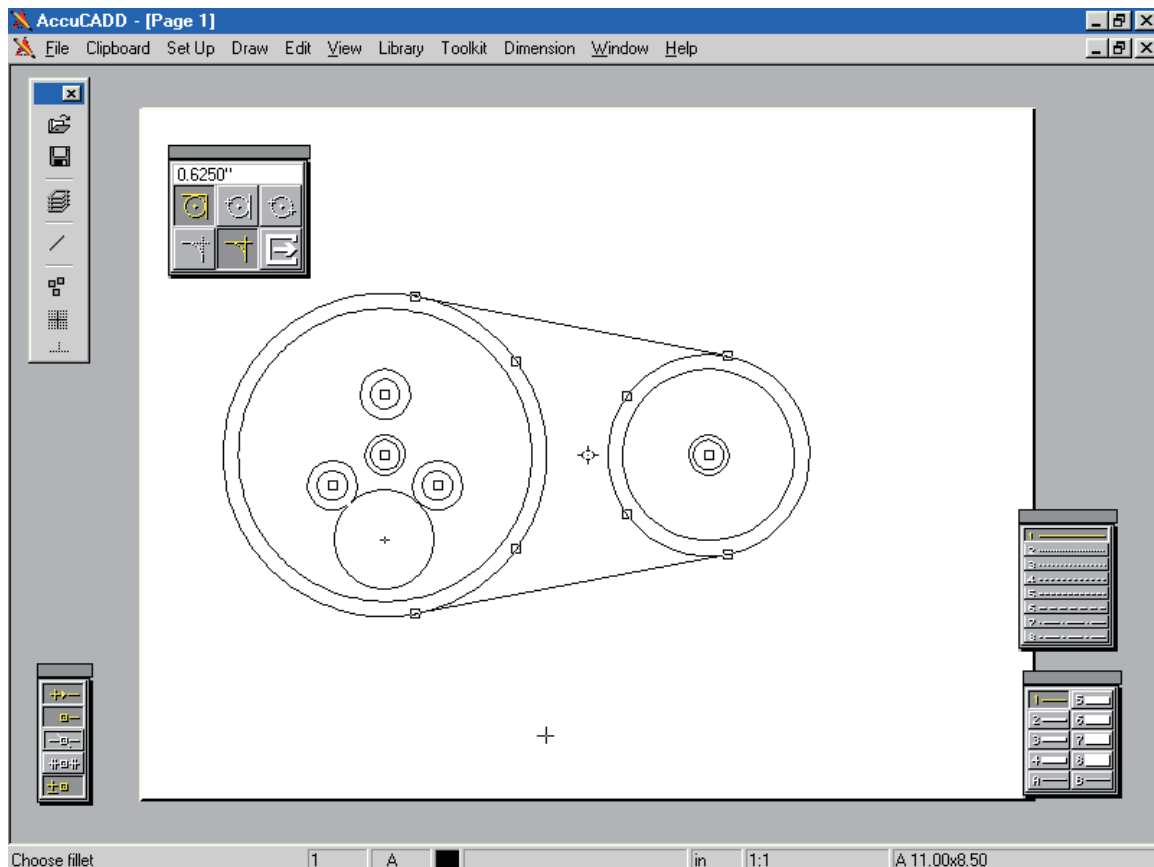

Figure 34: Filletting circles
- Select Fillet, then set the fillet radius to 0.625"; fillet the three "radial" circles, as Figure 34. (Accucadd has an automatic fillet-and-trim function, but we don't use that here).